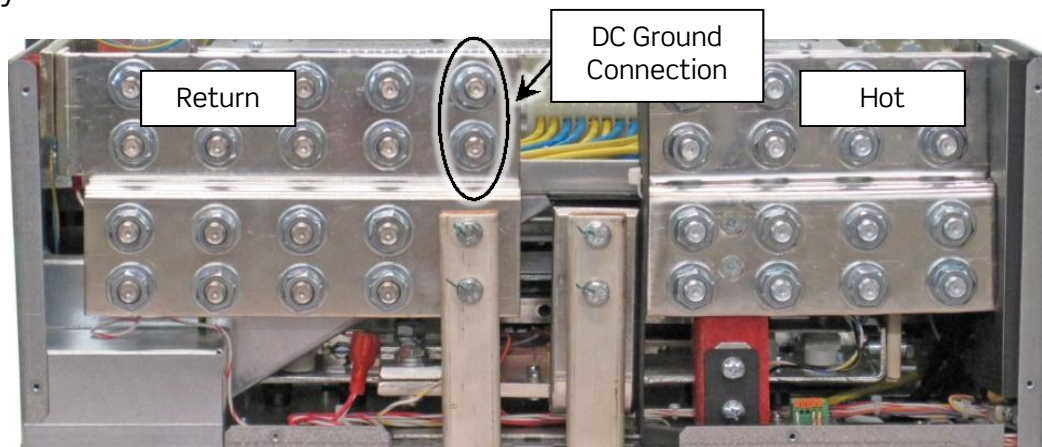

Figure 22 – Converter Input (back side converter plant)
There are eight (8) $\frac{3}{8}$ "-16 studs x 1" center-to-center connection(s). Input landings accept lugs with a tongue width up to 1.45". There is an extra return position for DC ground (see Figure 22).